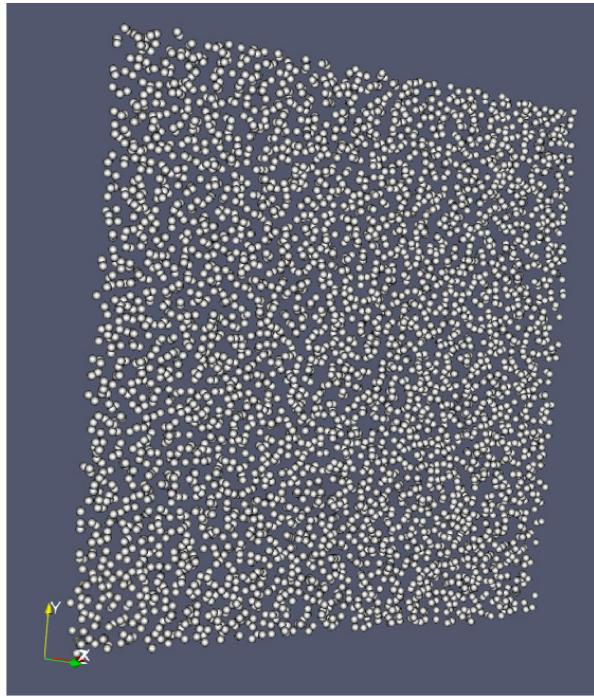

Fig. 15.3: : Particle image generated with ParaView
4. Change the Gaussian Radius if you like. You can scroll through the frames with the VCR-like controls at the top, as shown in Fig. 15.3.